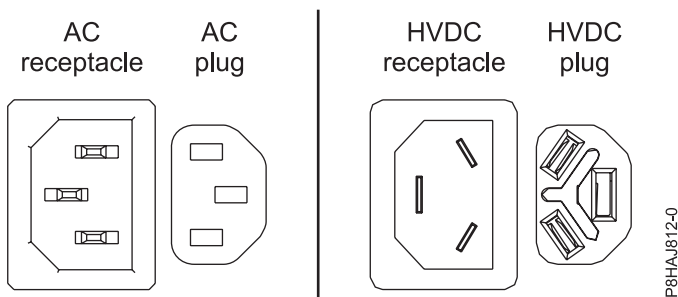
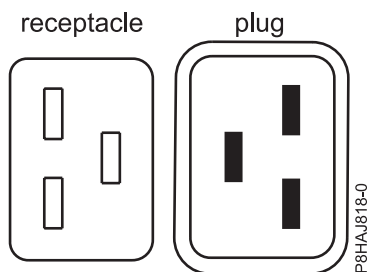
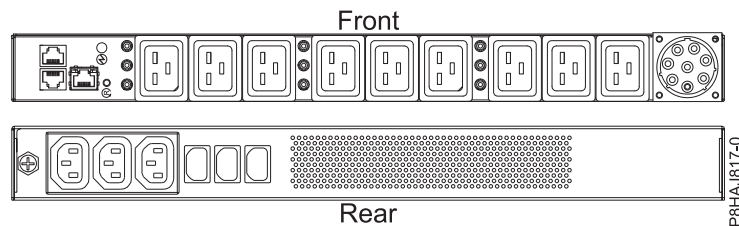

Figure 50. AC and HVDC connectors
Figure 51. Connectors for the 8408-44E system
Figure 52. PDU for the 8408-44E system
- The power cord is fastened to the system using the hook-and-loop fastener (A). If you are placing the system in a service position after disconnecting the power cords, then ensure that you unstrap the fastener.
Figure 50 shows the supported alternate current (AC) and high voltage direct current (HVDC) connectors. Figure 51 and Figure 52 show the supported connectors and power distribution unit (PDU) for 8408-44E.